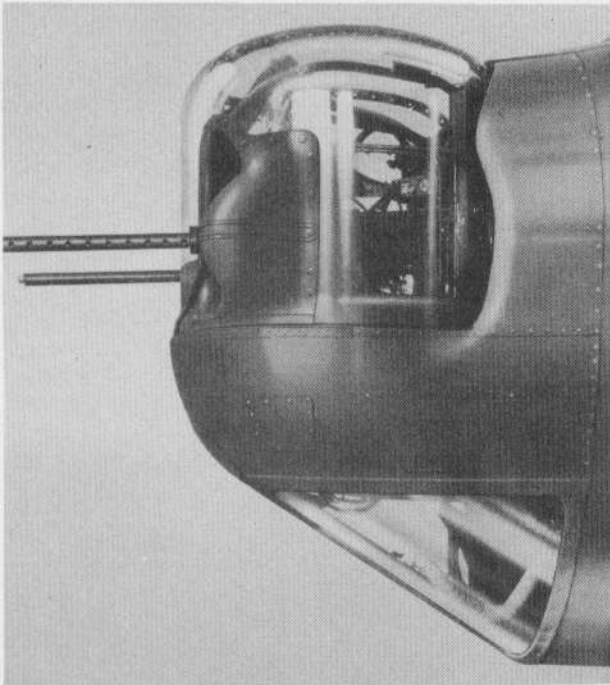

Figure 79—Type A-15 (Emerson) Nose Turret
a. EMERSON NOSE TURRET. (See figure 79.)
(1) DESCRIPTION. — The Emerson turret mounting two .50-calibre machine guns is rotated, and the guns are elevated and depressed by electric motors. Manual movement of the turret is accomplished by two cranks, one rotating the turret in azimuth and the other elevating the guns. The turret can be rotated manually from outside the turret by pulling on an emergency release cable which extends outside the turret. The gunner and the turret mechanism are protected by sections of  $\frac{5}{8}$ -inch and  $\frac{3}{8}$ -inch armor plate and bullet-resistant glass.
(2) TURRET OPERATING INSTRUCTIONS.